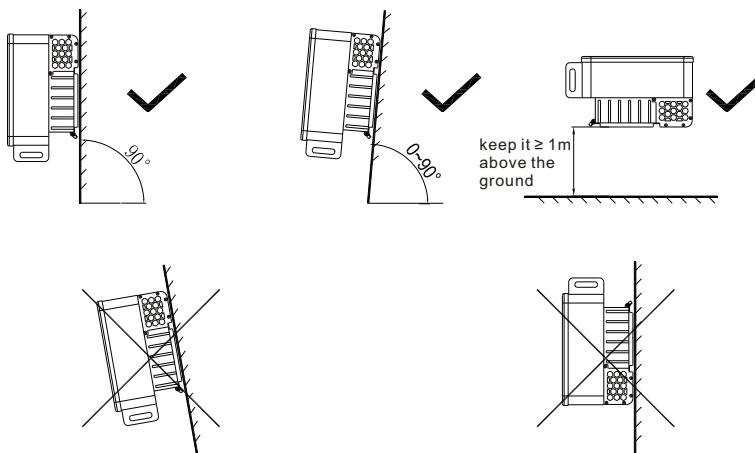

Figure 5.1
- A. Ensure that the installation wall is solid enough to bear the inverter.(Inverter weight please refer to installation manual Figure 5.1)